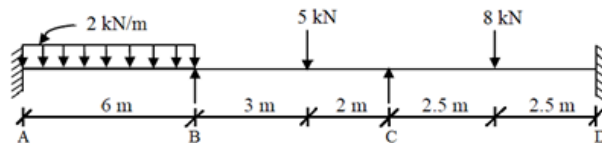

Figure 11
8. (a) Analyse the continuous beam ABCD shown in Figure 11 using moment distribution method and draw shear force, bending moment diagrams. Assume moment of inertia of the spans as $2I_{AB} = I_{BC} = 2I_{CD}$. [7M]